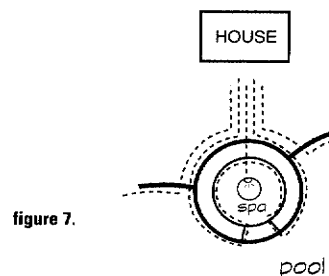

figure 7.
- When possible, a separate loop for the spa helps keep the pool loop short and bright (see figure 7).